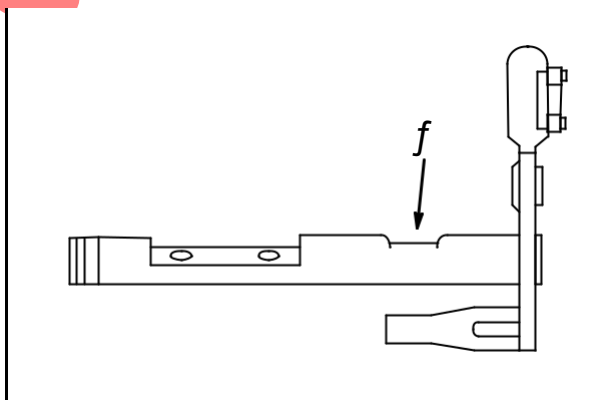

Fig. 97
Inspect throttle shaft and choke shaft for wear (3), **Fig. 97**. Replace if worn.